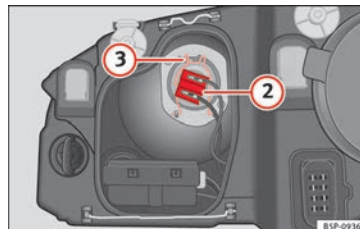

Fig. 179 Dipped beam headlights.
- Remove connector » Fig. 179 **2** from the bulb.
- Unclip the retainer spring »» **Fig. 179 ③** pressing inwards to the right.